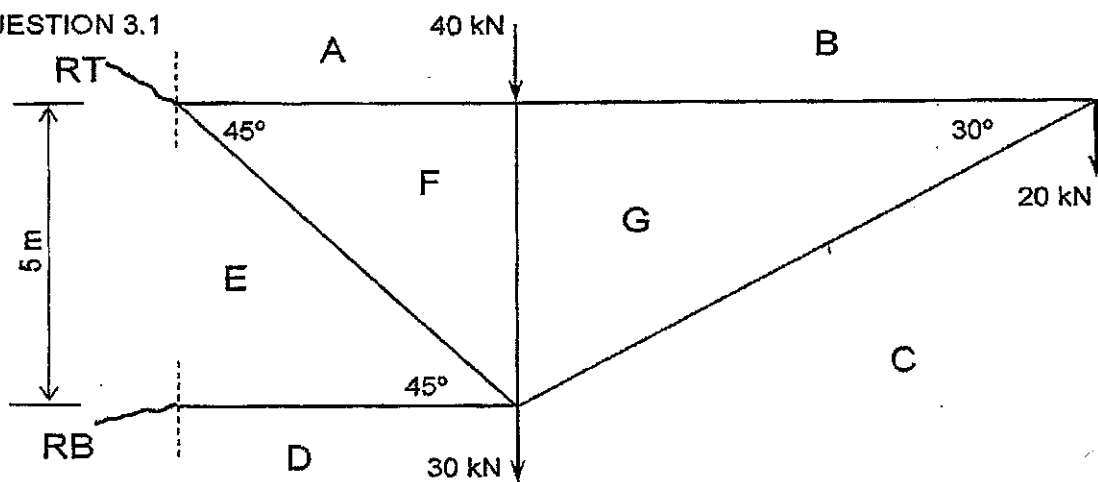

FIGURE 3
- 3.1 The cantilever in FIGURE 3, DIAGRAM SHEET (attached) is in equilibrium. RT and RB hold it in position. Reproduce the given figure to scale 1:100 and complete the vector diagram to scale 1 mm: 2 kN. Tabulate the results neatly.